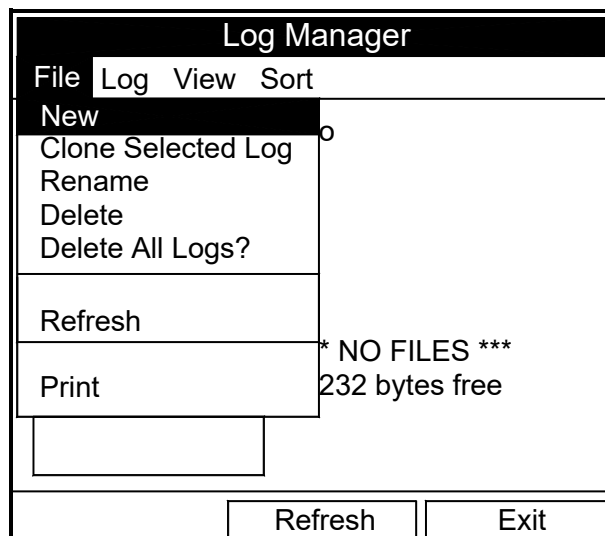

Figure 73: File Menu in the Log Manager
The File menu enables you not only to create new logs, but also to clone, rename, delete, refresh, or print existing logs. To open the File Menu from the Log Manager, press the **[MENU]** key and then **[ENTER]**. The screen appears similar to Figure 73 below.
- by scrolling to the New option in the File Menu of the Log Manager (see Figure 73 on page 64) and pressing **[ENTER]**.